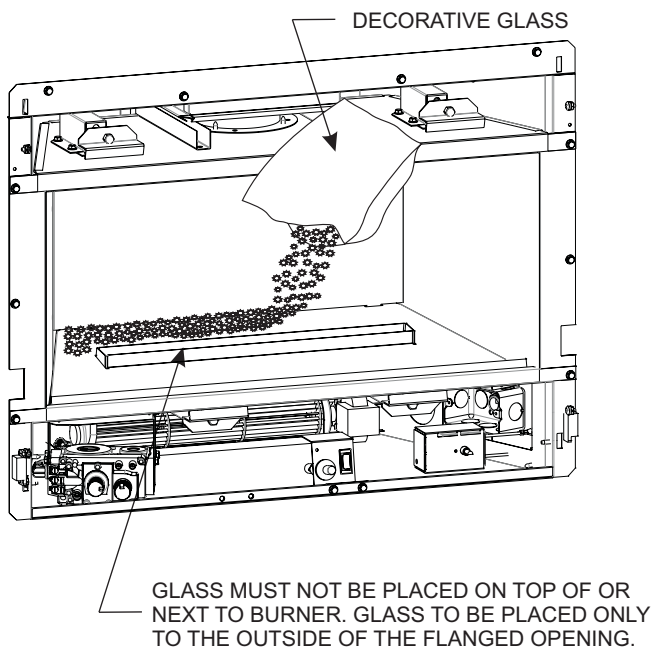
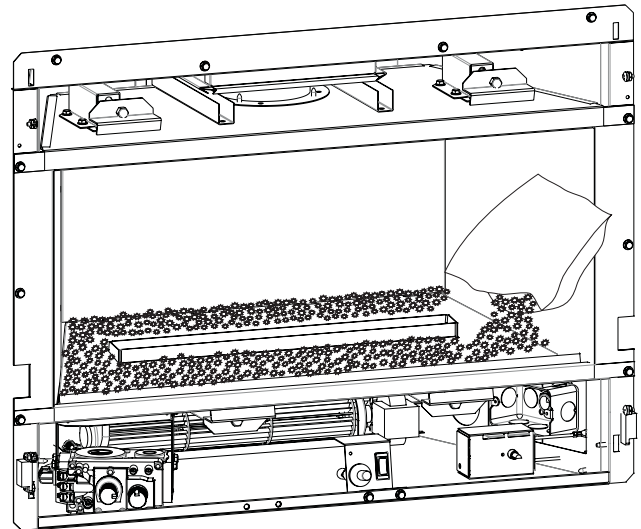
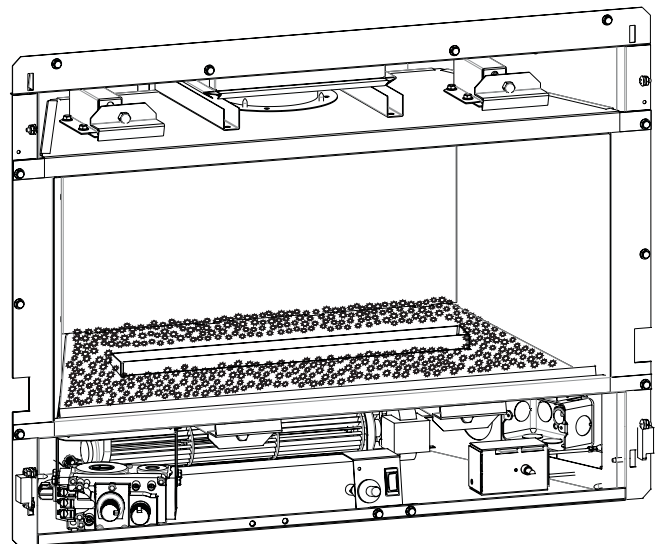

Figure 45
Figure 46
Figure 47
2. To install the Decorative Glass, cut off a corner of the plastic bag and proceed to apply the glass to the rear shelf on the Loft burner cover (area behind the burner). See Figure 45. Apply only enough glass to cover the black metal surfaces. Do not allow the glass to fall around the burner tube. See Figure 46. Apply the remaining decorative glass to the front sloped surface of the Top Cover. Start by placing the glass along the front edge of the top cover, then gradually place the glass up the sloped top cover until completely covered. Do not allow the glass to fall around the burner tube. See Figure 47.